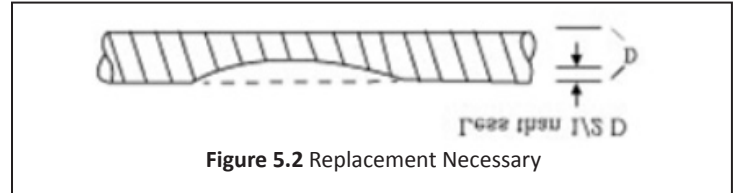

Figure 5.2 Replacement Necessary
1) The tubing has been significantly crushed or dented (a dent greater than 1/2 the diameter of the pipe). (Figure 5.2)